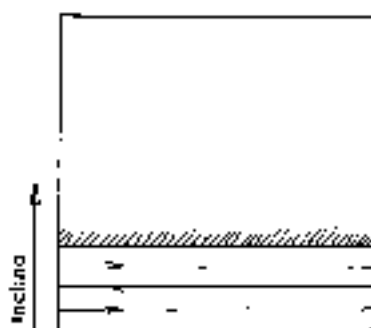

Fig. 20
c) Working on slopes with irregular areas (Fig. 20/21/22)